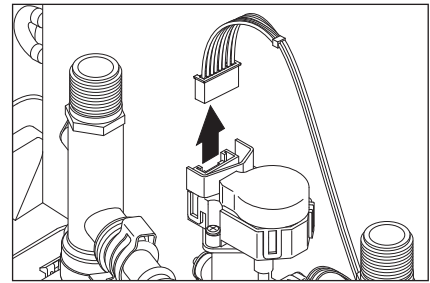

Figure 23 - Disconnecting 8 Pin Wire Harness
- 11 Disconnect the 8 pin wire harness located on top of Smart Valve as shown in Figure 23. Place wires aside in a safe location so they are not damaged.